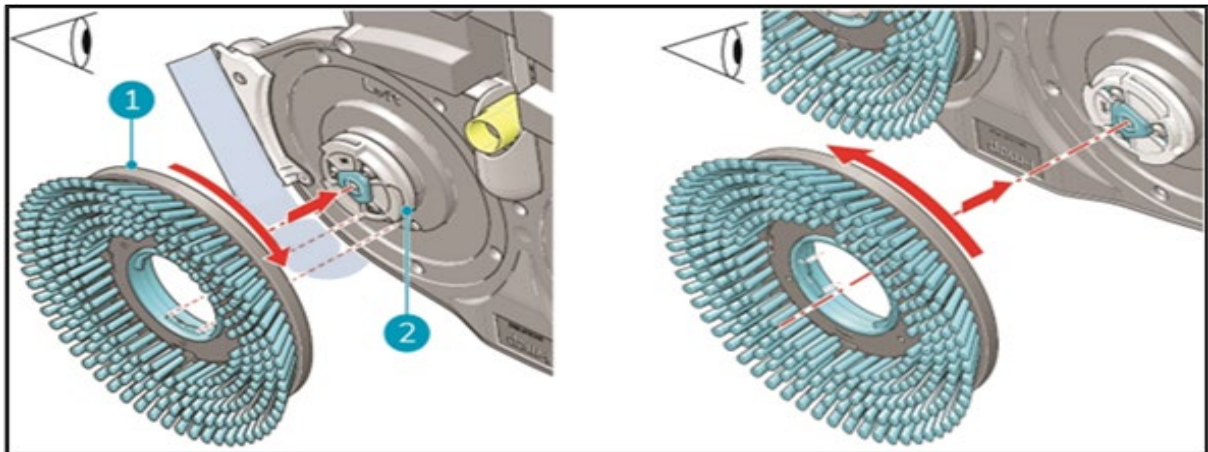

Figure 34
3. Using your other hand to turn the left brush (Figure 34 , pos 1) anticlockwise until you feel resistance or see the motor disk turning as well.